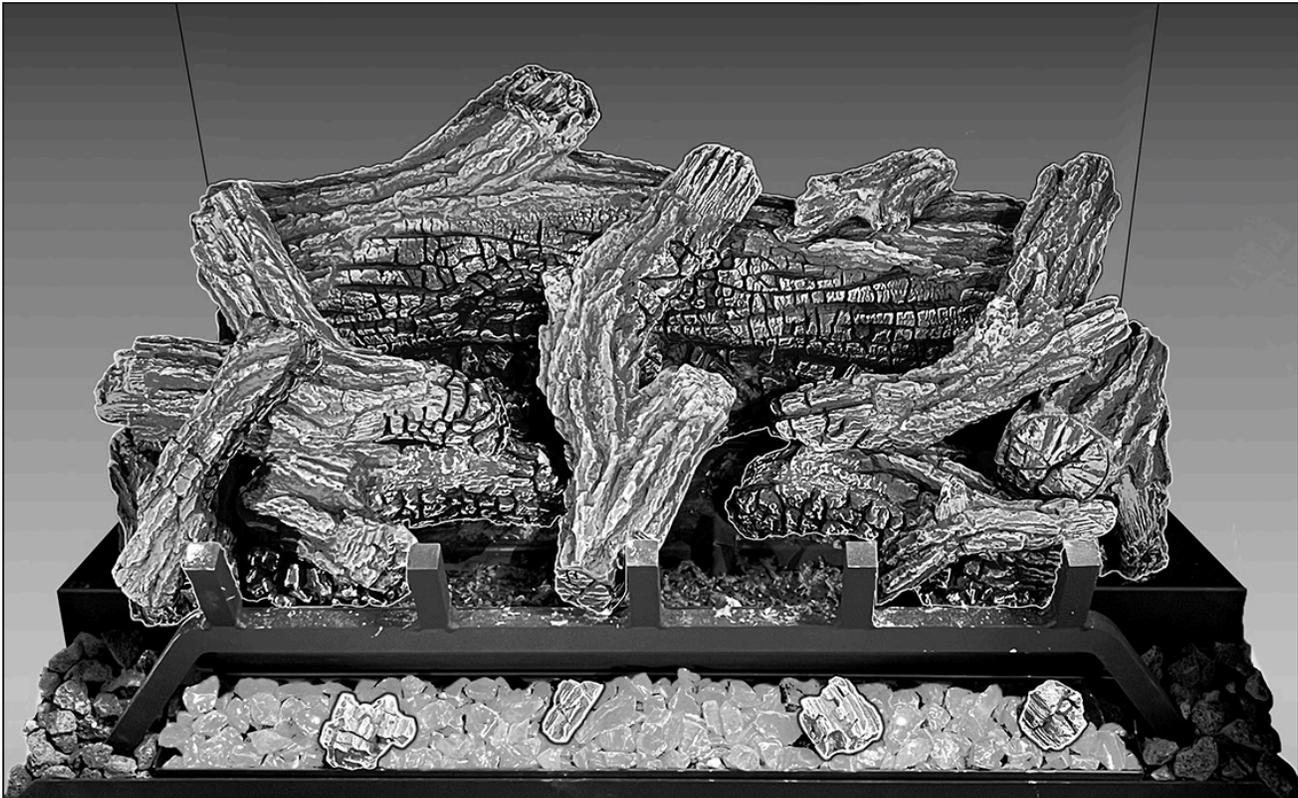
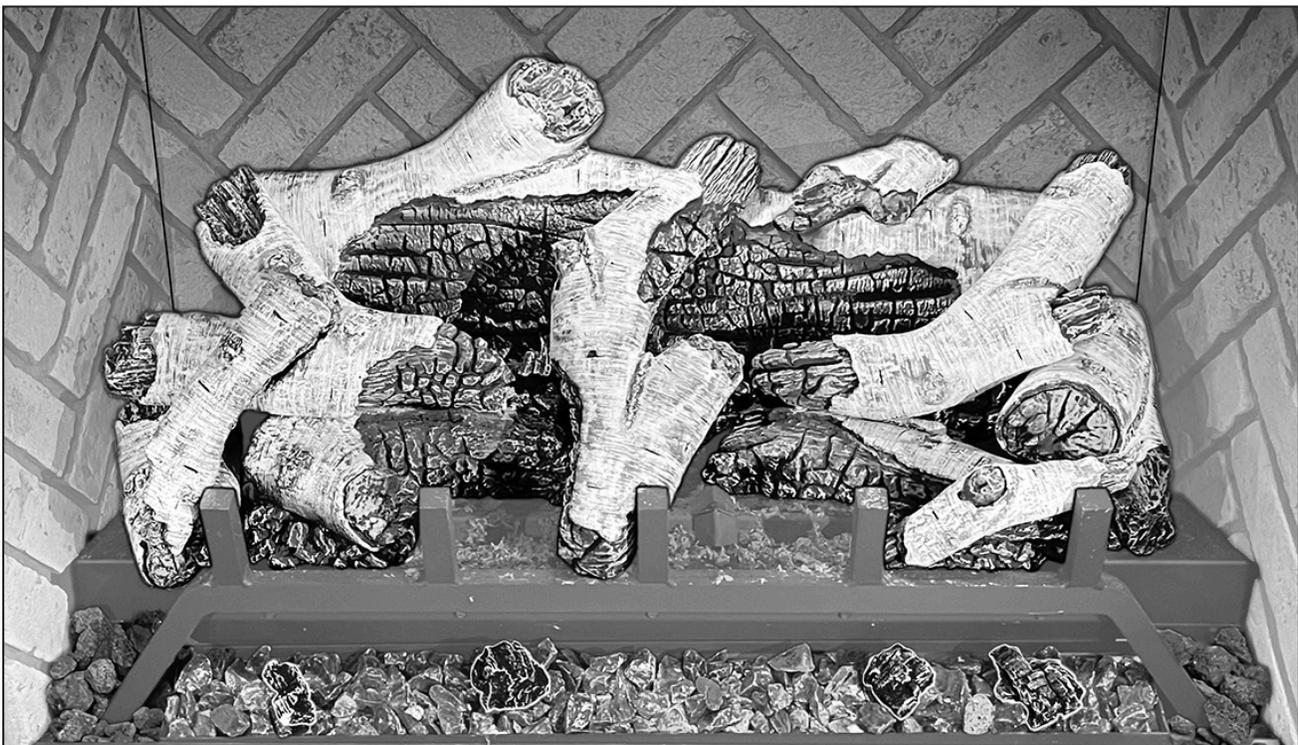

FIGURE 8.10 BH38-500 Completed Install
FIGURE 8.11 BH38-B501 Completed Install
9. Place (4) charred pieces on top of the ember bed. You may place the pieces at your discretion. See **FIGURE 8.10** and **FIGURE 8.11**.